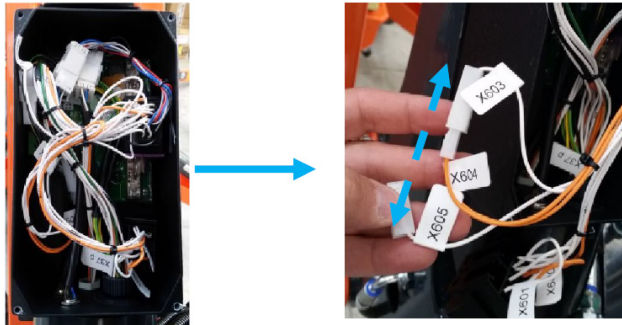

Figure 4-20.
11. Open load cell board (ECM3) box, locate connectors X604 and X603, then disconnect them. See Figure 4-20.